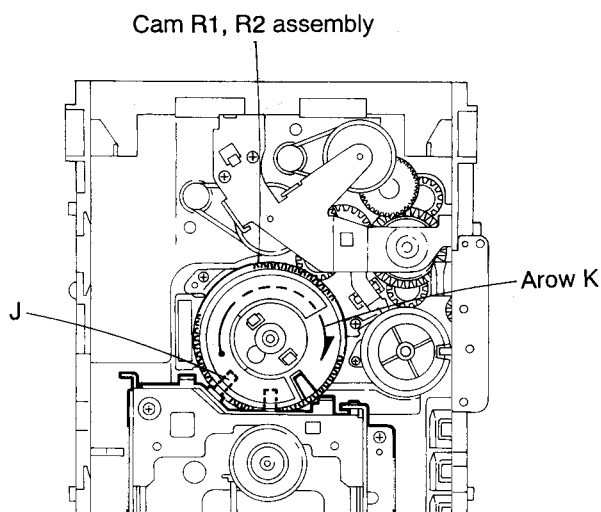

Fig. 5-26
■ Removing the CD mechanism (See Figs. 5-26 and 5-27)
1. For dismantling only the CD mechanism without removing the CD mechanism assembly, align the shaft (L) of the CD mechanism assembly to the position shown in Fig. 5-26 while turning the cam R1 and R2 assembly in the arrow direction (K).